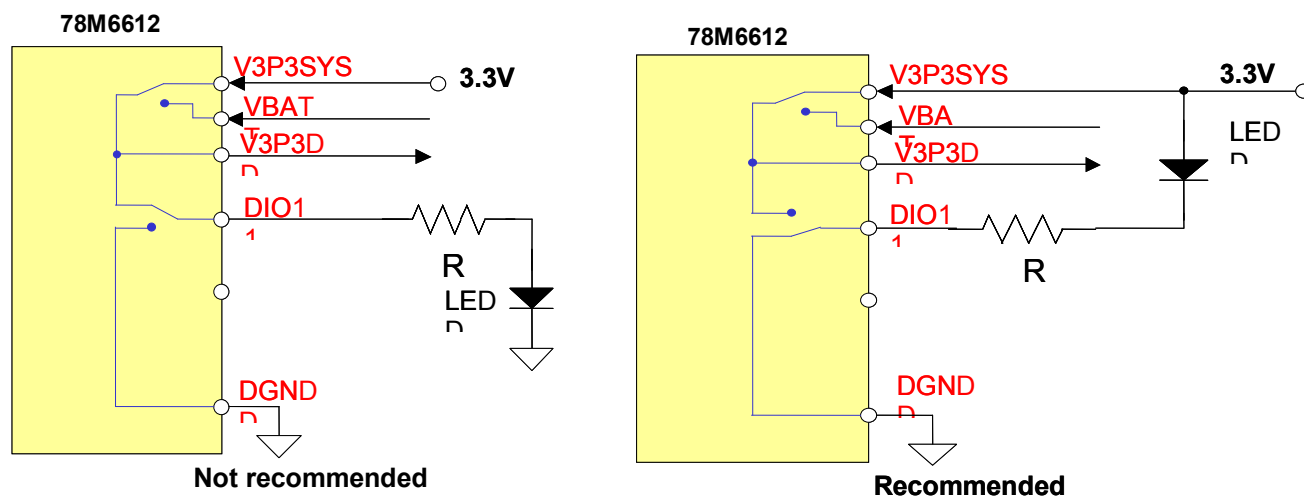

Figure 3: Connecting an External Load to DIO Pins
**When driving LEDs, relay coils etc., the DIO pins should sink the current into ground (as shown in Figure 3, right), not source it from V3P3D (as shown in Figure 3, left). This is due to the resistance of the internal switch that connects V3P3D to either V3P3SYS or VBAT.**